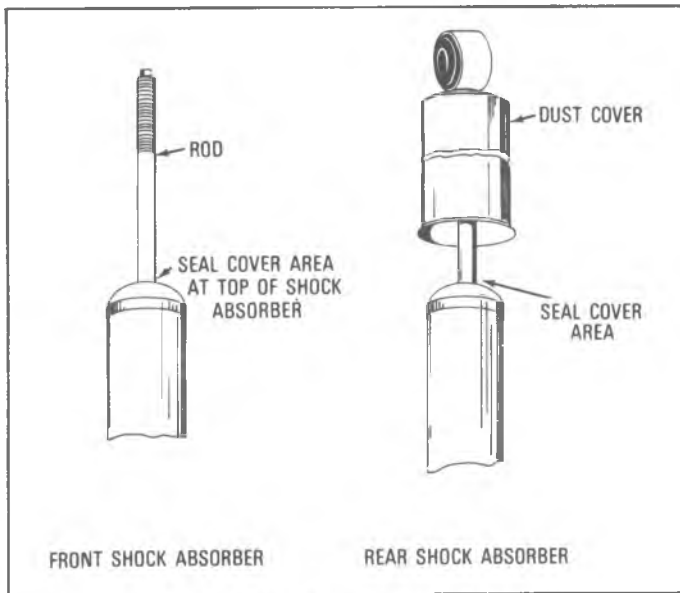

Fig. 44—Seal Cover Area of Shock
- (b) Inspect shocks for leaks in seal cover area. Shock fluid is a very thin hydraulic fluid and has a characteristic odor and dark brown tint (Figure 44).